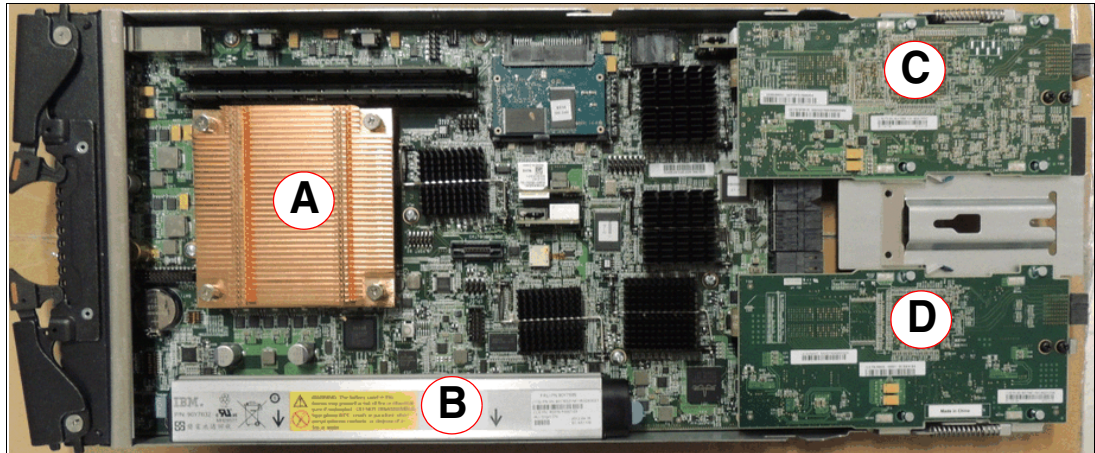

Figure 2-3 Components and board layout of the control canister
The control canister is responsible for the management of all the virtualization, RAID functions, advanced features and functions of IBM Flex System V7000 Storage Node and all command and I/O to its internal drive slots and the expansions that it is connected to. The control canister is a Customer Replaceable Unit (CRU). Figure 2-3 shows a picture of the control canister with its cover removed.
In Figure 2-3, the processor (A) is a quad core Jasper. There are also two DIMMs which make up the cache memory and the battery backup unit (B) which beside the control canister is also a Customer Replaceable Unit (CRU).